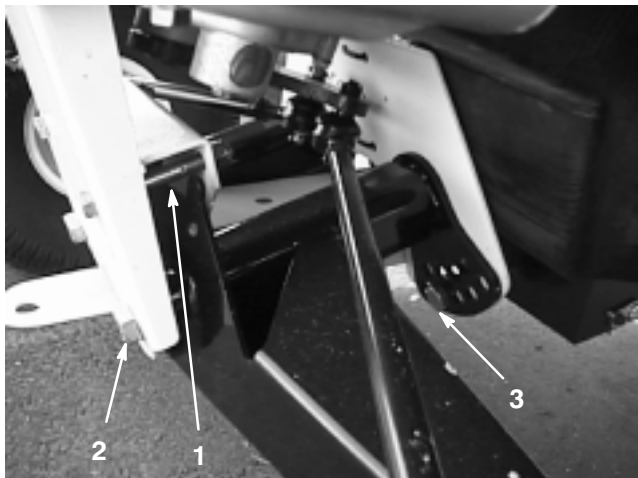

Figure 24
2. Remove the travel limiting bolt (Fig. 24).
3. Loosen the centering bolts in the front "A" frame (Fig. 24).
4. Remove the ride height adjustment bolt (Fig. 24).
5. Rotate the front "A" frame to desired position (Fig. 24).
6. Replace the ride height adjustment bolt and the travel limiting bolt (Fig. 24).